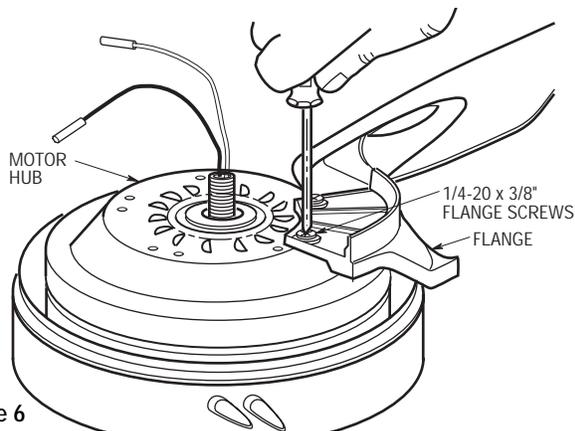

Figure 6
- 9. Attach blade assembly to motor hub using two 1/4-20 x 3/8" Phillips oval head flange screws. Make sure the screws are tightened securely (Figure 6). Repeat this procedure for other four blade assemblies.